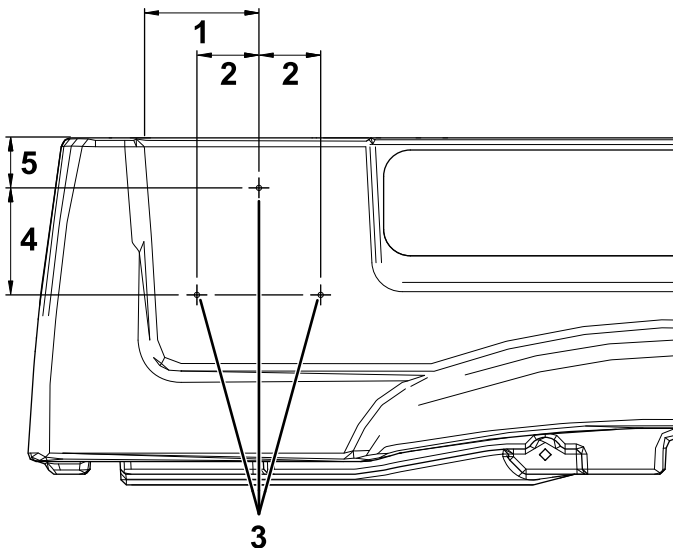

Figure 15
1. On the left side of the cargo bed, measure 136 mm (5-3/8 inches) from the right edge of the molding and 60 mm (2-3/8 inches) down from the top of the cargo bed, and mark this location (Figure 15).
2. Measure 128 mm (5 inches) down from the hole marked in step 1 and 74 mm (2-7/8 inches) to the right and left mark the 2 locations (Figure 15).
3. Drill a 5 mm (13/64 inch) hole at each of the 3 marked locations (Figure 15).